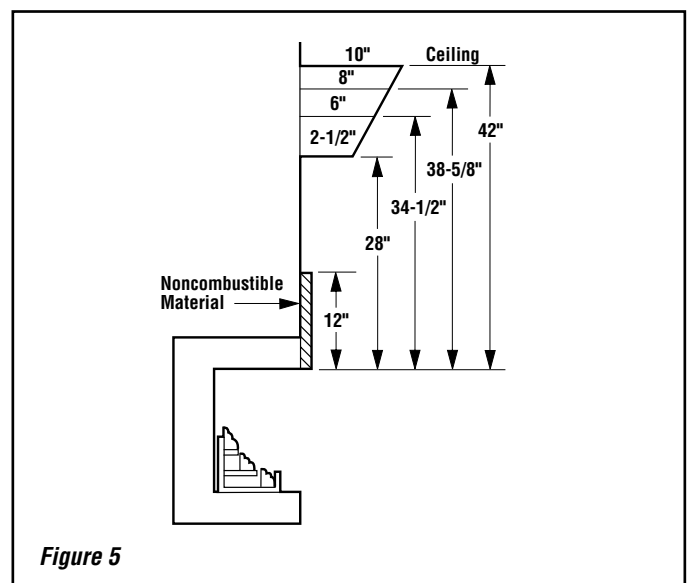

Figure 5
12" or more	Adjustable canopy not required. Observe profiles shown in Figure 5 .
Step 4. Wood mantel, shelf or combustible projection requirements: To install a wood mantel, shelf or other combustible projection directly above the fireplace (firebox), refer to *Table 2* and to *Figures 5 and 6* for installation profiles.